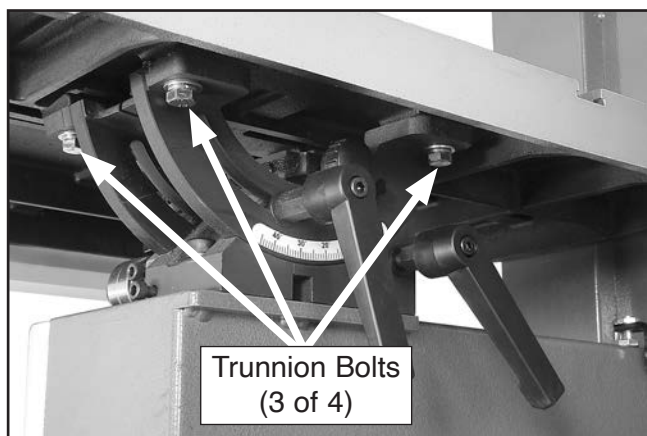

Figure 62. Location of trunnion bolts.
5. Loosen trunnion bolts that secure table (see **Figure 62**).
3. Determine which trunnion is on low side of table, then remove two trunnion bolts (see **Figure 62**) from low trunnion.